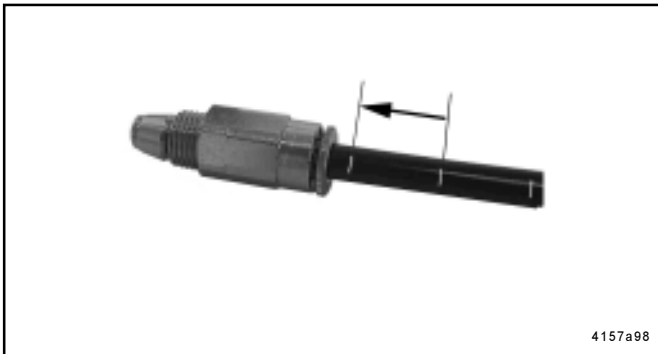

Fig. 9 - Insert feed line into the Quicklinc fitting up to the next white mark
*Note: Push the end of the line firmly into the Quicklinc fitting until it is fully seated in the body. Primed feed lines are marked with white lines (Fig.9, 10) as an installation aid.*